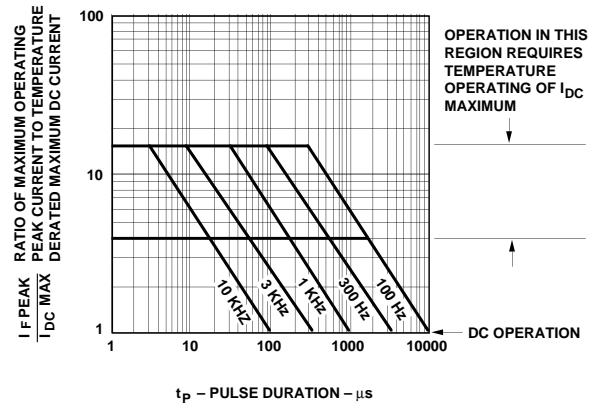

Figure 2. Maximum Allowed Peak Current vs. Pulse Duration - AlGaAs Red.
- See Figure 2 to establish pulsed conditions.